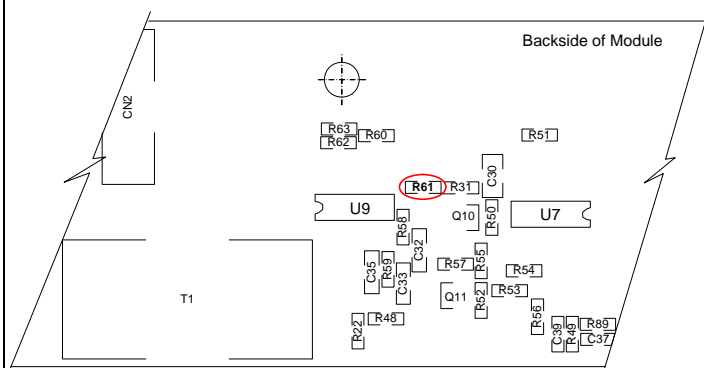

Figure 10 – Locating The Resistor on the LXMG1621-xx
2. By making a resistor value change on the module. Remove R61 for maximum dimming range or increase R61 value to desired minimum dim range setting (see figure 10). Care should be exercised since at a low enough dim setting the inverter will be unable to detect that the lamp has started and will initiate lamp strike (kickoff) voltage. This will result in lamp flicker. For repeatable low light levels the BRITE input DC supply must be a very clean stable voltage source, at low dim inputs.